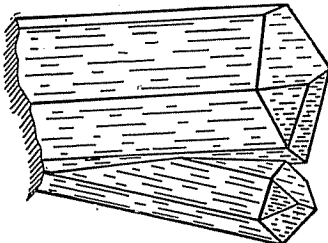

Fig. 29
**Crystal System**—Good crystals very common. Figures 29 and 30 illustrate two of the more important types of crystallization. Some crystals are very complex.